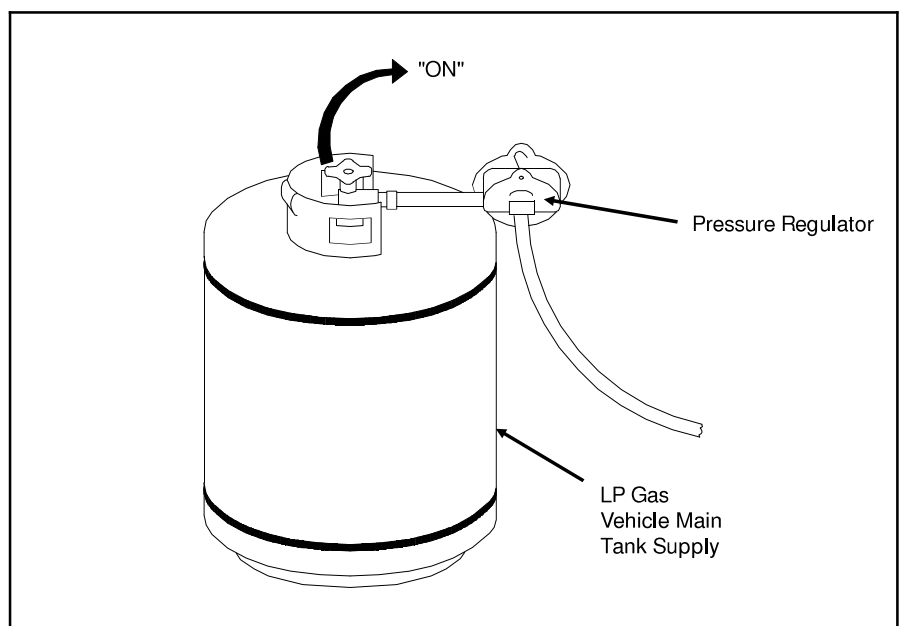

Figure 11.44 Main Gas Valve Check
19. Check that the main LP gas is turned on at the tank as shown in Figure 11.44.